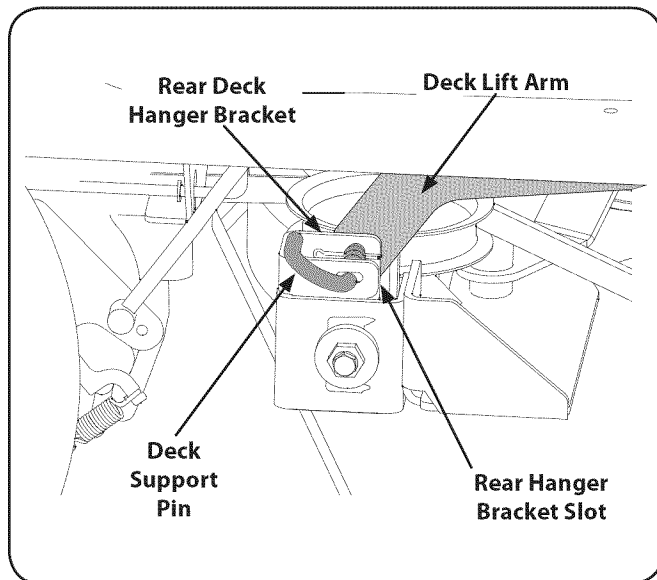

Figure 7-6
6. Locate the LH and RH deck support pins on each side of the deck. Pull the deck support pins outward and lock in the disengaged position to release the deck from the tractor's LH and RH deck lift arms. Refer to Fig. 7-6.
7. Raise the deck lift arms out of the rear hanger bracket slots by raising the deck lift handle on the tractor to its highest position. Refer to Fig. 7-6.
4. Maneuver the deck so that the slots in the two rear deck hanger brackets approximately align with the deck lift arms of the tractor. Refer to Fig. 7-6.
6. Pull the deck support pins outward and maneuver the deck as necessary to align the holes in the deck lift arms with the pins. Refer to Fig. 7-6.